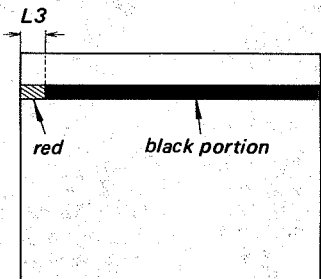

Fig. 4-2.
3. Adjust RV113 so that the L3 becomes about 6mm (red) at VHF low band. (Fig. 4-2.)